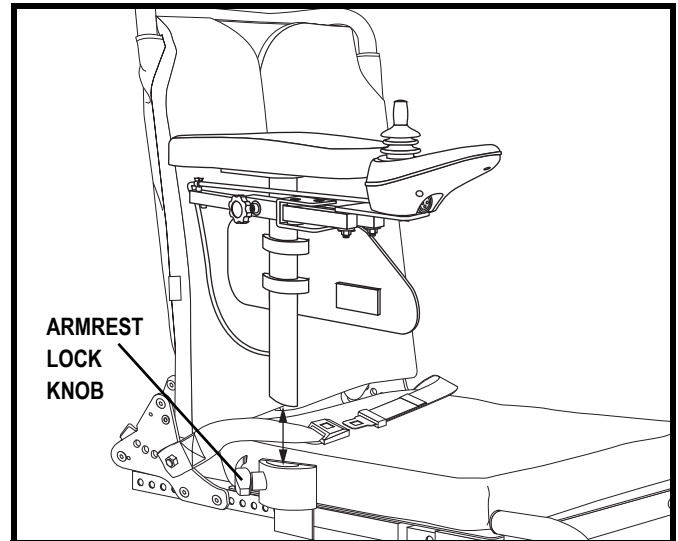

Figure 16. Armrest Removal/Installation
1. Rotate the armrest lock knob counter clockwise. See **figure 16**.
1. Place the armrest assembly into the armrest lock. See **figure 16**.